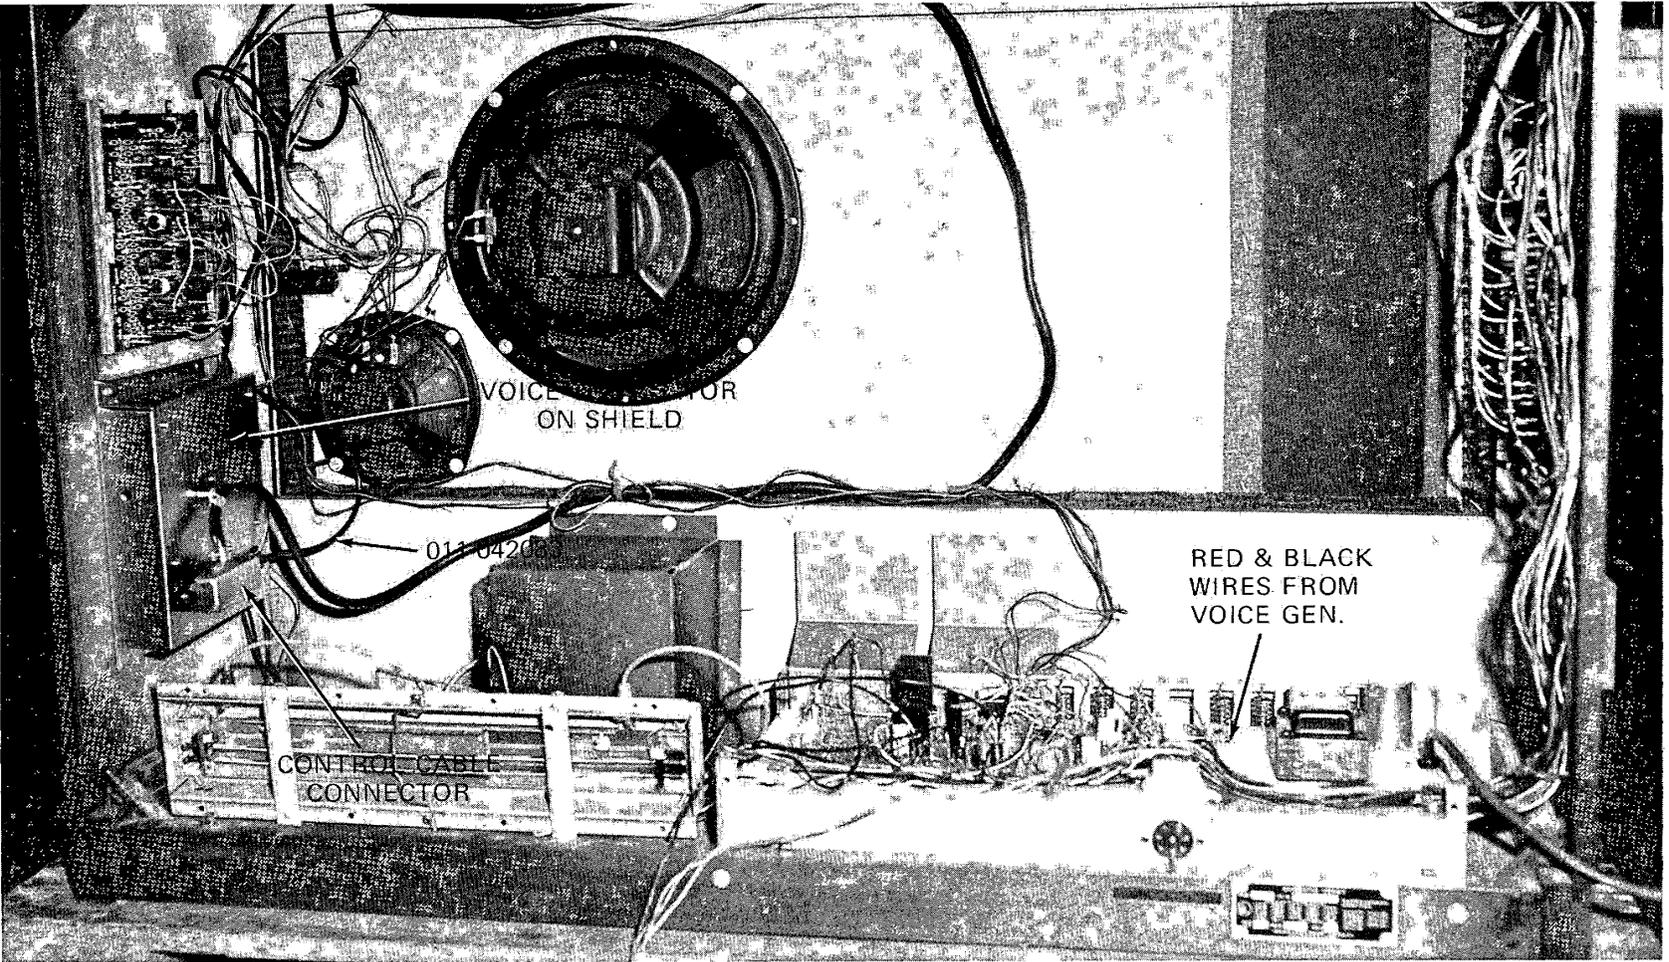

Figure A-14
- a. Place voice generator 063-042080 over shield 010-042082 and fasten generator on shield to inside left end wall (rear view) in the position shown in Figure A-14. Fasten with four screws 884-050734.